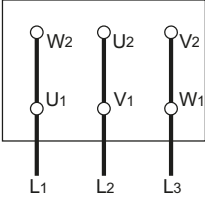

Figure 7a. Δ - connection
- The mains connection on the terminal box depends on the nominal power of the motor, the power supply and the type of connection. The necessary connection of the bridges in the terminal box is shown in the following (Table 2 ve Figure 7a, 7b, 7c).